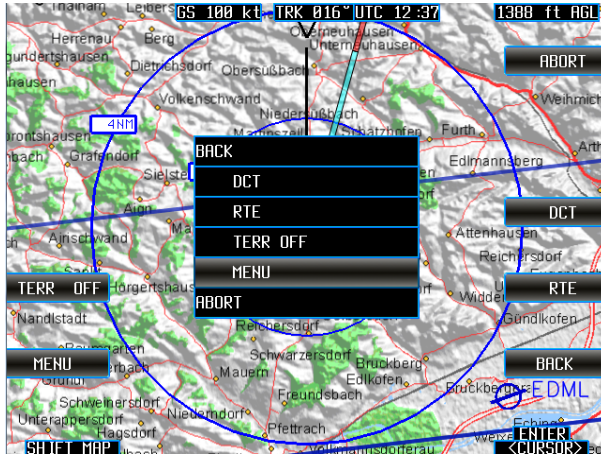

Figure 13: Base map, view with function list
- Push on it to confirm your choice (Figure 13).